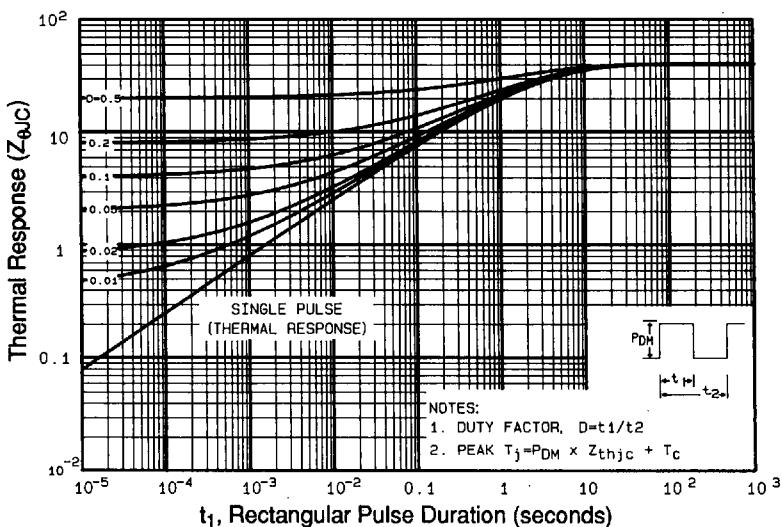

Fig 11. Maximum Effective Transient Thermal Impedance, Junction-to-Case
① Repetitive rating; pulse width limited by max. junction temperature (See Figure 11)
② $V_{\text{DD}}=-25\text{V}$, starting $T_J=25^\circ\text{C}$, $L=50\text{mH}$